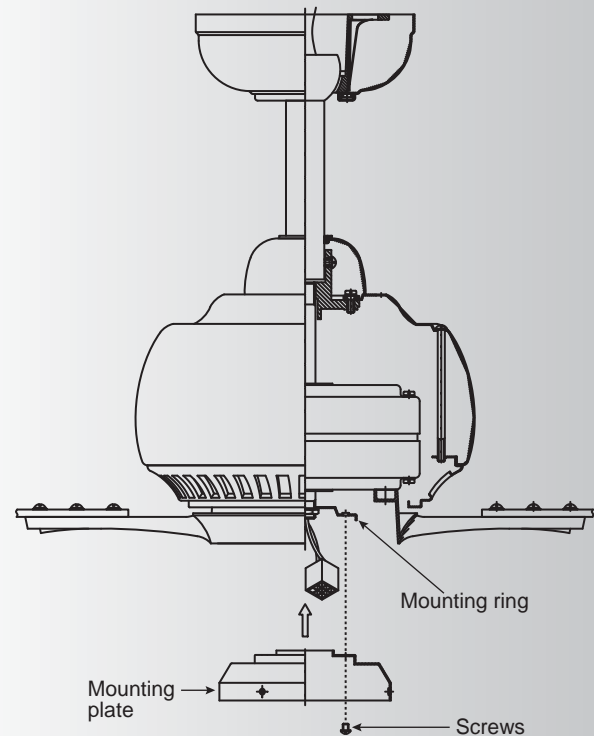

Fig. 15
1. Loosen two screws on the mounting ring attached to the motor shaft and "remove" and save the third screw. (Fig. 15)
2. Place the key holes on the mounting plate over the 2 screws previously loosened from the mounting ring, turn mounting plate until it locks in place at the narrow section of the key holes. Secure by tightening the 2 screws previously loosened and the one previously removed. (Fig. 15)